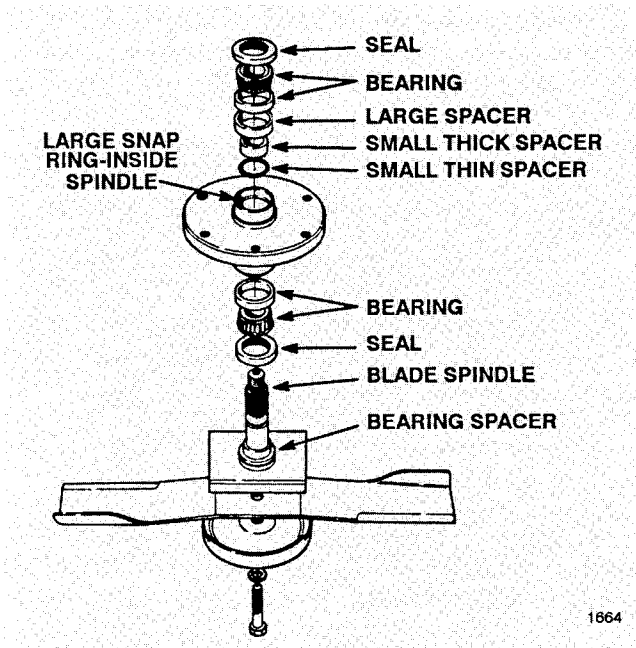

Figure 22
5. If spindle shaft will be replaced, move bladebolt, lockwasher, anti-scalp cup and blade from spindle shaft (Fig. 22). Otherwise, the blade and its other associated parts may be left on the spindle shaft.
6. Press spindle shaft out of spindle housing (Fig. 22) using an arbor press. Bearing spacer (Fig. 22) remains on spindle shaft as shaft is being removed.
7. The seals (Fig. 22) will be removed next; however, notice the lip of the seal. The lip of the upper seal faces inward, and the lip of the lower seal faces outward. Therefore, new seals must always be installed with the lip facing in the proper direction. Now remove seals from spindle housing.
8. Allow bearings, small thick and small thin spacers to fall out of spindle housing (Fig. 22).
9. Using a punch and hammer, drive both bearing cups (Fig. 22) out of spindle housing. Also drive large spacer (Fig. 22) out of housing.
2. Using an arbor press, push the large spacer into top of spindle housing and tightly against the snap ring (Fig. 22). Spacer must contact snap ring to be sure of correct assembly of parts (Fig. 23).
3. Thoroughly oil cups and using an arbor press, push bearing cups — smallest ID first — into top and bottom of spindle housing (Fig. 22). Top bearing cup must contact spacer that was installed in step 2, and
4. Apply a film of grease on lip of both seals; then install bearing and seal into bottom of spindle housing (Fig. 23). Remember though, the bottom seal must have the lip facing outward (Fig. 22) not toward inside of spindle housing.
5. Slide small thick and small thin spacers into spindle housing (Fig. 22). Then, install bearing and seal into top of spindle housing. Lip of the seal must face outward.